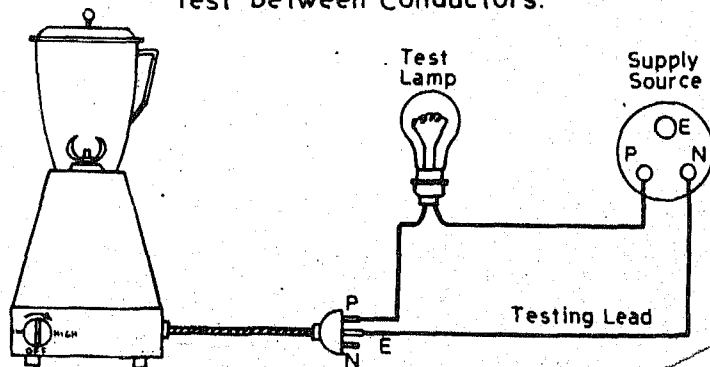

Fig. 31.3 Earth and Leakage Test between Conductors and Earth (Body).
- (xiii) Connect a test lamp in series with the motor as shown in Fig. 31.3 for earth and leakage test.